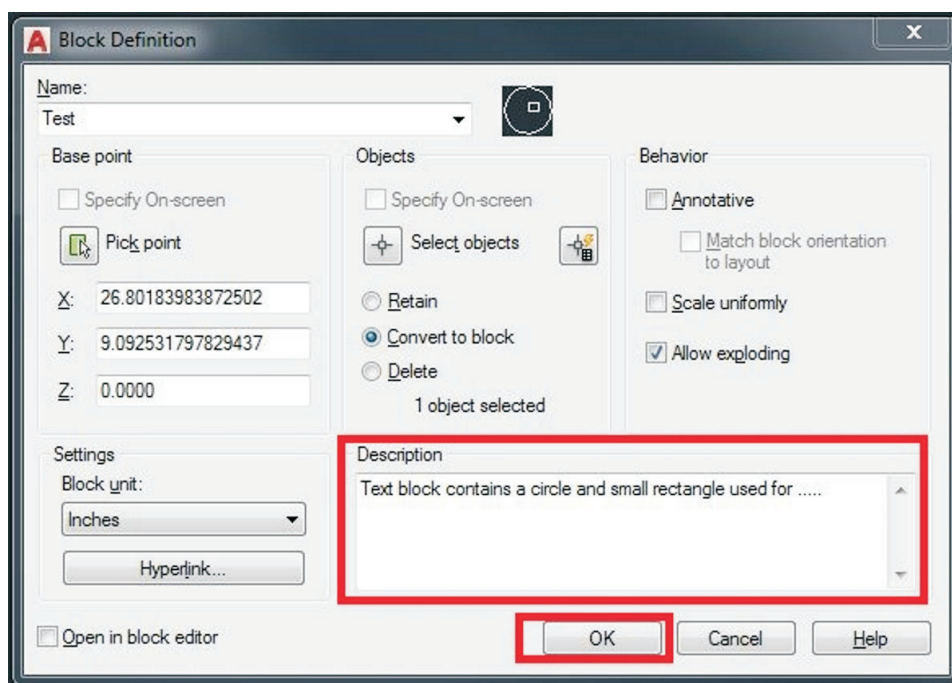

FIGURE 9. AutoCAD's Description Area in the Block Definition Dialog Box. (AutoCAD screen shot reprinted with the permission of Autodesk, Inc.)
- ◆ Lastly, give the block a description that alerts the operator/drafter to the details of the block and click the ok button as shown in FIGURE 9. This AutoCAD drawing file now contains one user-defined block called 'Test.'